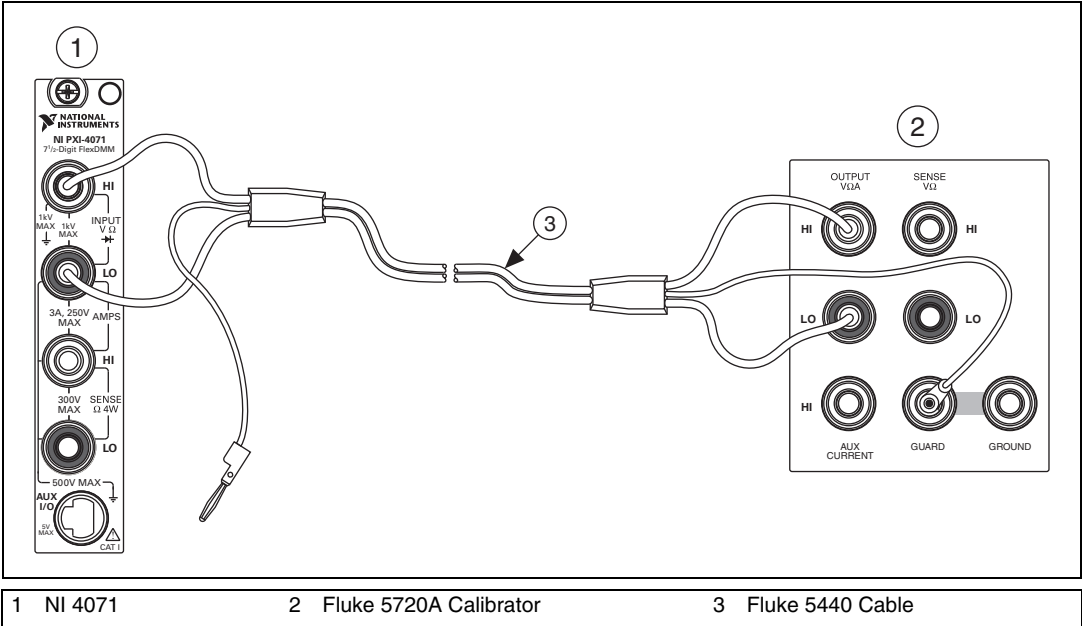

Figure 1. Cable Connections for Voltage and 2-Wire Resistance
29. Connect the NI 4071 and the Fluke 5720A calibrator using the Fluke 5440 cable, as shown in Figure 1. Table 3 lists the cable connections.